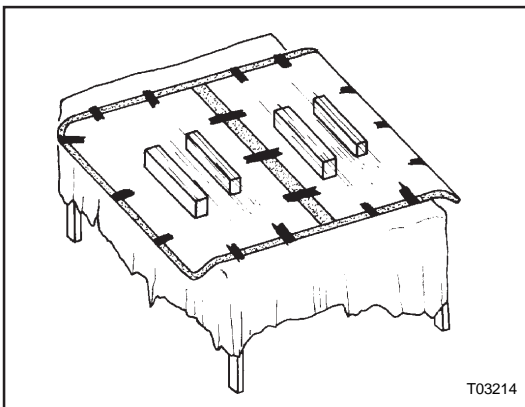

Figure 3: Completely prepared lower windshield halves on table
2. Place the windshield (both halves of the windshield) on wooden blocks on a table. The edges of the windshield must remain free of the work surface (see Figure 3).